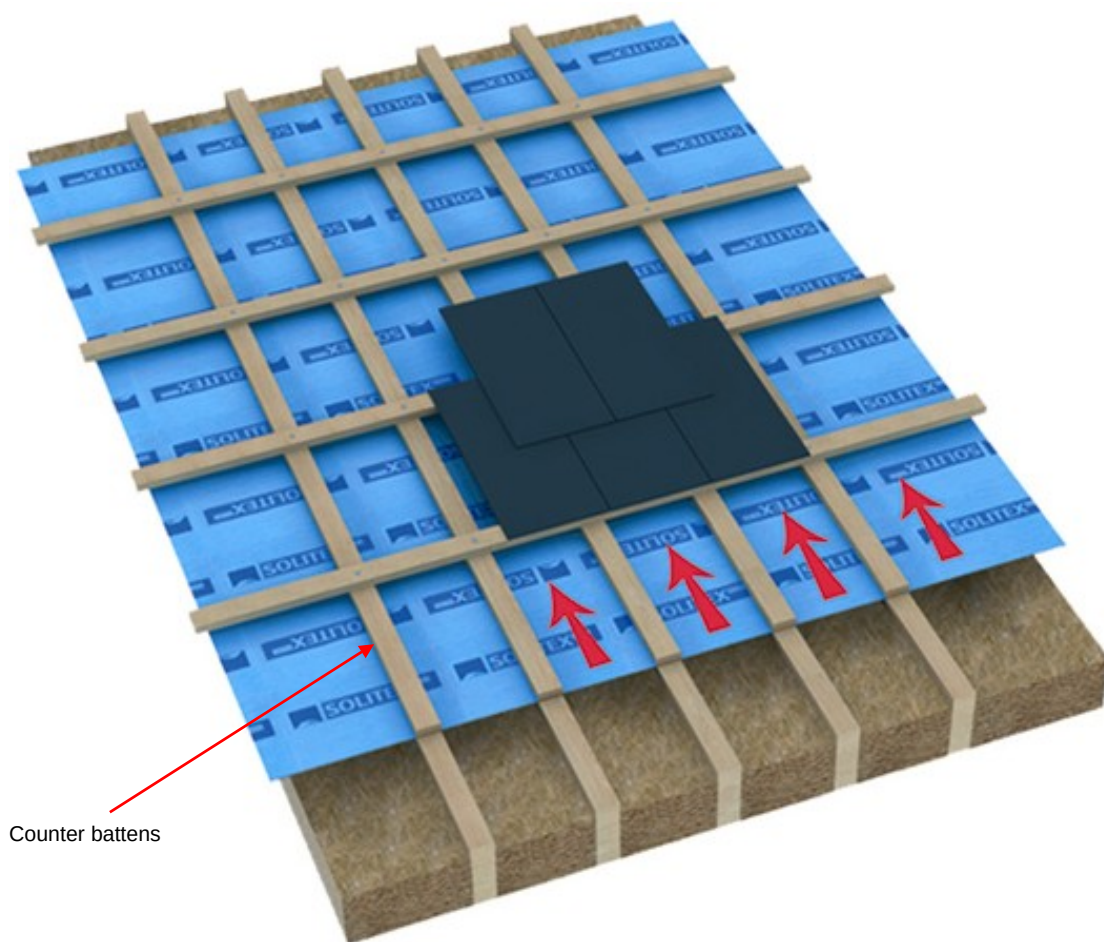

Figure 2: Non ventilated warm roof detail
- In a non-ventilated warm roof the underlay may be laid taut or draped, parallel to the eaves and fixed by counter battens (minimum thickness 25mm). See Fig 2.